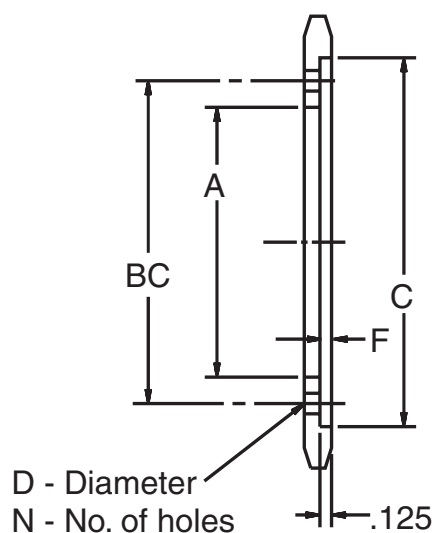

Figure 2
- Dimensions of drive member and mounting bolts are listed (Figure 2).